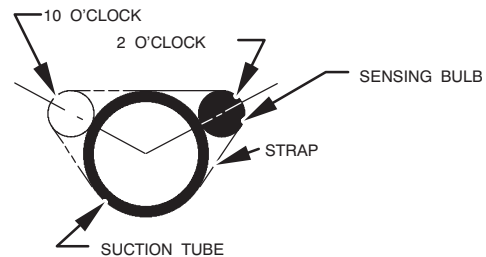

Fig. 27 – Position of Sensing Bulb
8. Attach TXV bulb to horizontal section of suction line using clamps provided. Insulate bulb with field-supplied insulation tape. See Fig. 27 for correct positioning of sensing bulb.
9. Reinstall TXV support clamp (removed in item 3).
10. Attach TXV bulb to vapor tube inside cabinet, in same location as original was when removed, using supplied bulb clamps (nylon or copper). See Fig. 27 for correct positioning of sensing bulb.
8. Reinstall TXV support clamp (removed in item 3). (N coils only.)